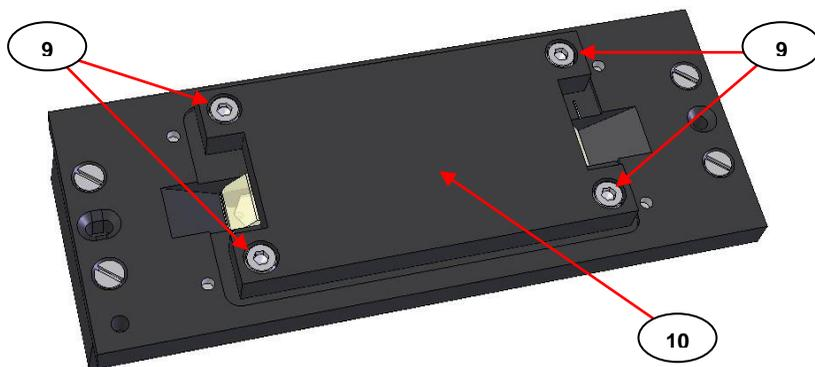

Fig 6. Underside of Flow Through Top Plate Assembly
- 1) Lay the Top Plate assembly on to a clean workspace area and proceed to remove the four M3 x 16mm cap head screws (9) from the black, anodized lower clamp plate (10) on the underside of the Top Plate assembly using the 2.5mm A/F Allen key supplied. Turn the screws (9) anticlockwise to remove. (See Fig 6.)
- 4) Carefully replace the lower clamp plate (10) over the lead pad (11) and crystal (7) and refit the four screws (9). Ensure that the lead pad (11) and crystal (7) are not dislodged from their central positioning. (See as for Fig 6.)
- 5) Exert a pressure at the middle of the lower clamp plate (10) with your thumb and tighten the four screws (9) a little at a time, in a rotational sequence, to apply the pressure to the lead pad (11), crystal (7) and Isolast gasket (8) assembly. The objective is to bring the lower clamp plate (10) into contact evenly and levelly to the main body plate (4) for tightening of the components together to avoid any sample fluid leakage in operation.